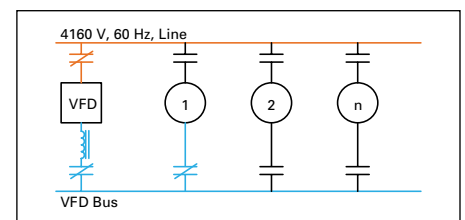

Figure 10.4-19. VFD Running Motor #1
- PLC opens bypass contactor (Figure 10.4-19)